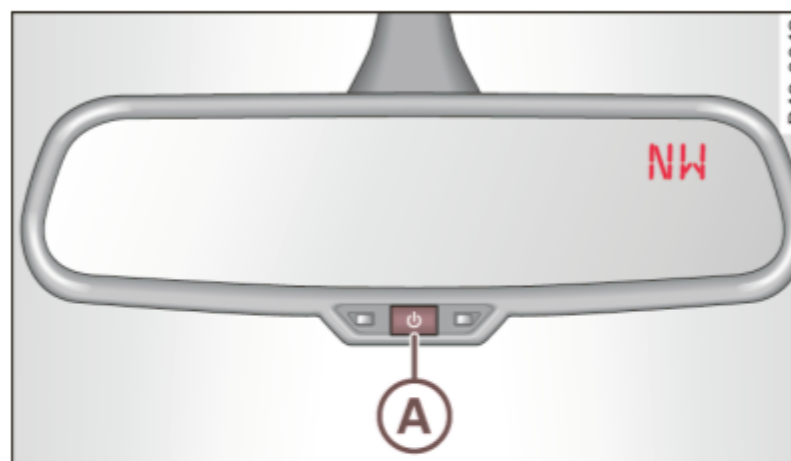

Fig. 55 Inside rear view mirror: digital compass activated
- Hold the **(A)** button ⇒ *page 66*, fig. 55 down until the number of the set magnetic deflection zone appears on the interior rear view mirror.